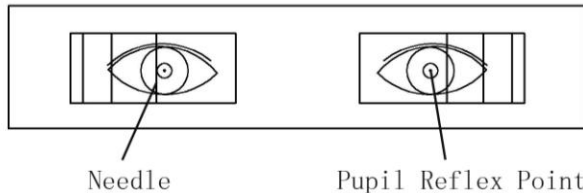

Figure3
- 7) Optometrists could see the pupil reflex point of patients through the observation hole(9), as shown in Figure3.